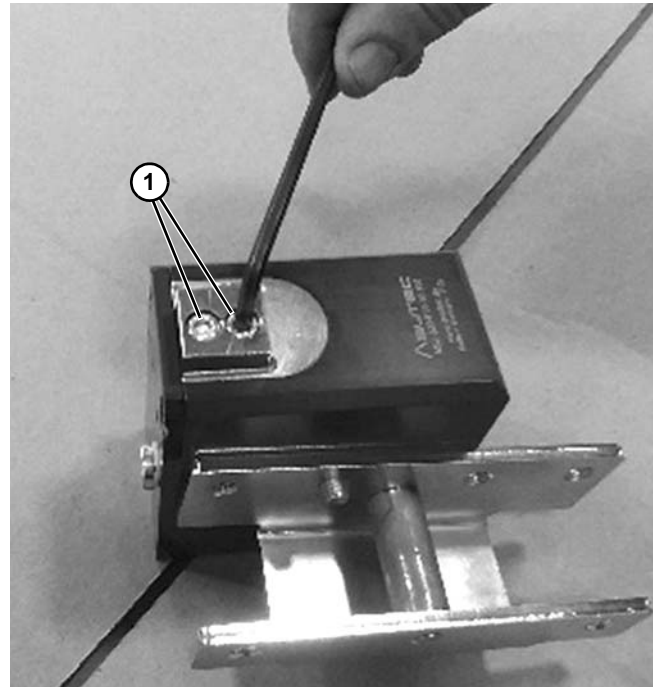

Figure 12
6. Replace fasteners (Figure 12, item 1) and tighten.